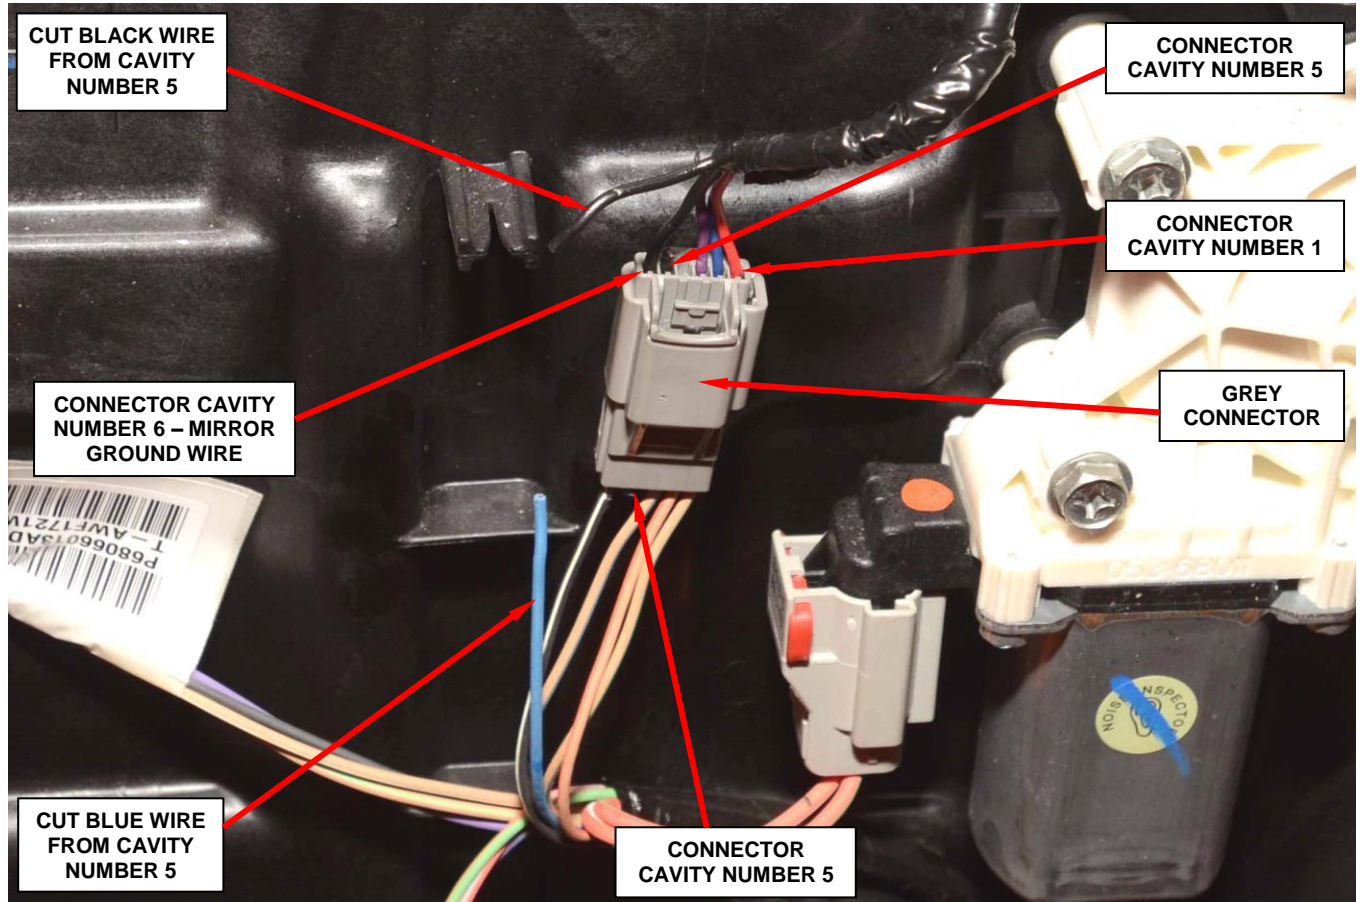

Figure 6 – Cut Power Wires at Both Sides of the Grey Connector
- d. Using compressed air, blow out the connector halves until dry (Figure 6).
10. Cut the black wire on the mirror harness connector (cavity number 5) and the blue wire in the door harness wire connector (cavity number 5) (Figure 6).